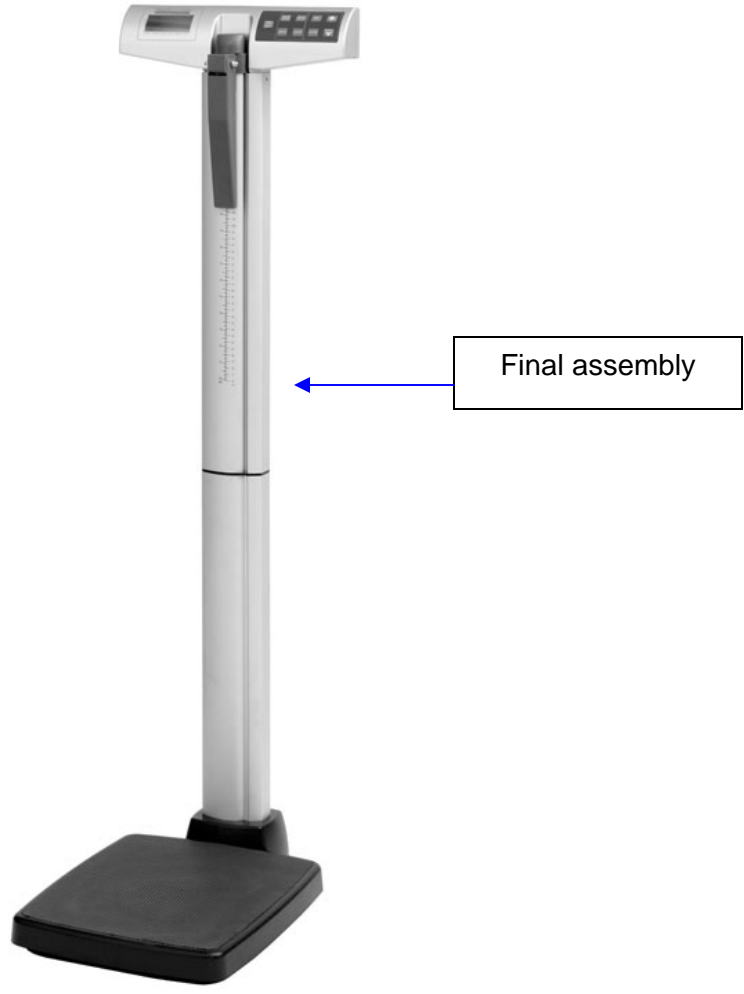

Figure 11
13. The scale is now assembled and ready for use (see Figure 11).